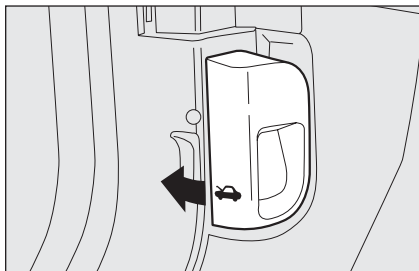

fig. 88
- pull lever **fig. 88** in the direction of the arrow;